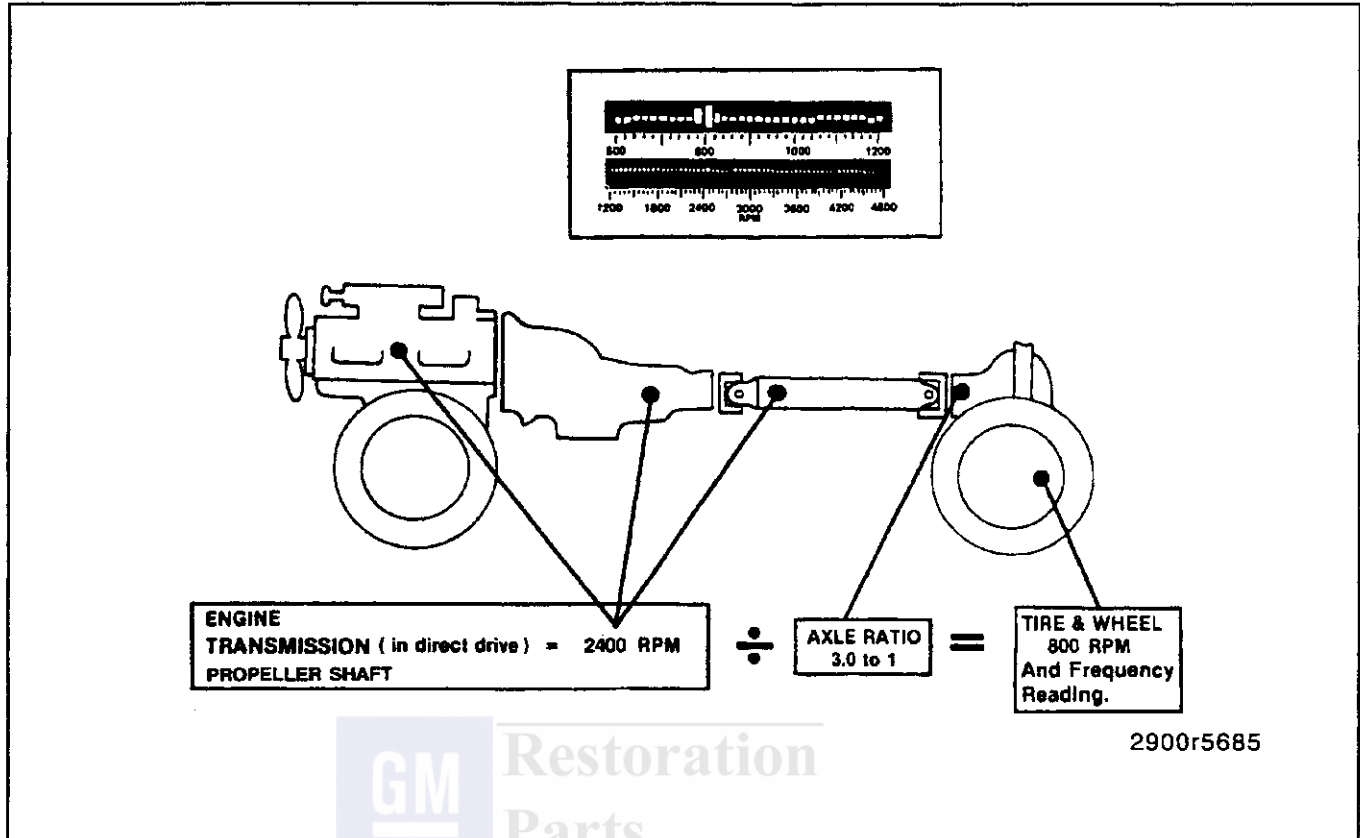

Figure 5—Reed Tachometer 1st Order Vibration
**Known facts** - Reed tachometer frequency reads at 800 cycles per minute (figure 5).